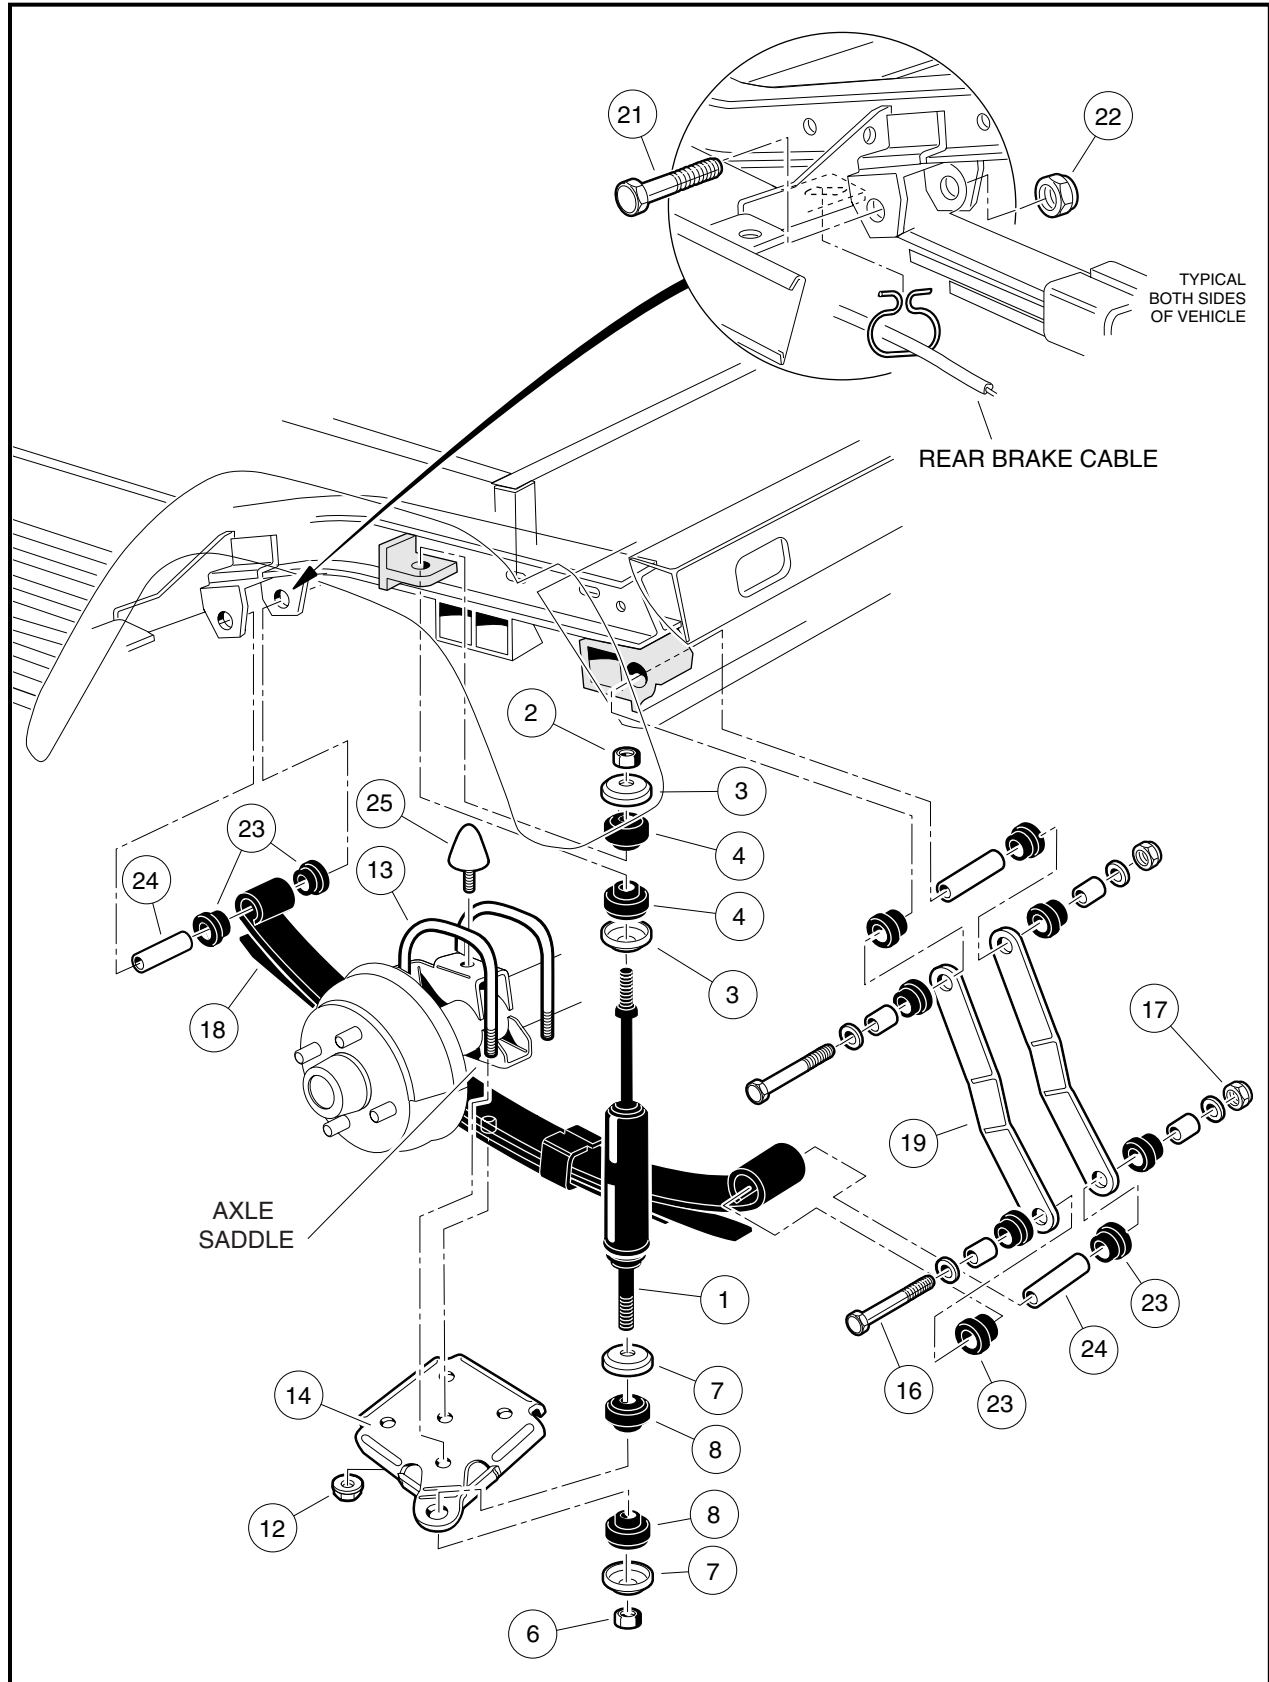

Figure 9-1 Rear Suspension for MC012C-AS00 Transaxle
1. Check shock absorbers (1) for damage or fluid leakage around the housing and replace if necessary (**Figure 9-1, Page 9-2**).
2. Remove the nut (2), cup washers (3) and rubber bushings (4) from the upper shock absorber stem.
2. Tighten nut (2) until rubber bushings (4) expand to the same diameter as the cup washers (3) (**Figure 9-1, Page 9-2**).
3. Install mounting hardware and tighten the nut (6) until the rubber bushings (8) expand to the same diameter as the cup washers (7).
- Remove the lock nuts (12) attaching the U-bolts (13) to the shock mount bracket (14) (**Figure 9-1, Page 9-2**).
- Remove bolt (16) and lock nut (17) attaching the leaf spring (18) to the rear shackles (19).
- Allow rear of leaf spring (18) to rest on the ground and remove the bolt (21) and lock nut (22) attaching the front of the spring to the vehicle frame. Remove spring from vehicle.
- Inspect the rubber bushings (23) and steel sleeves (24) in the spring eyes and replace them if they are worn or damaged.
- Install rubber bushings (23) and steel sleeves (24) into leaf spring eyes (**Figure 9-1, Page 9-2**).
- Place front of leaf spring (18) into front mounts and insert grade-eight bolt (21) through mount and leaf spring eye. Attach lock nut (22) and tighten to 15 ft-lb (20.3 N·m). See following **CAUTION**.
3. Align opposite end of leaf spring with spring shackles (19). Insert bolt (16) through shackles and leaf spring eye. Attach lock nut (17) and tighten to 15 ft-lb (20.3 N·m). Lower transaxle onto leaf spring (18) (Figure 9-1, Page 9-2). See following CAUTION.
- When placing transaxle on spring, be sure to position locating bolt on the spring into the center locating hole in the axle saddle (Figure 9-1, Page 9-2).
4. Install shock mount bracket (14) onto locating bolt of leaf-spring.
5. Install U-bolts (13) and lock nuts (12) and tighten lock nuts in a crisscross pattern to 35 ft-lb (47.5 N·m).